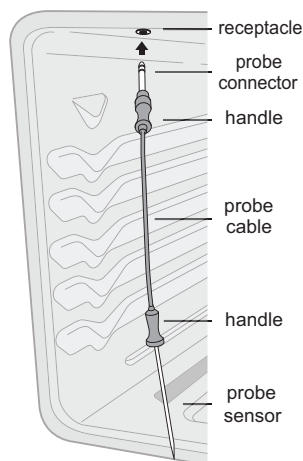

Figure 25: Probe receptacle insertion
The probe receptacle is located at the top of the oven cavity as shown in Figure 25.
Handle the meat probe carefully when inserting and removing from food or probe receptacle. Do not use kitchen utensils, such as tongs, to pull on meat probe cable when inserting or removing from food or receptacle. Use the provided handle, as shown in Figure 25. To avoid possibility of burns after cooking, carefully unplug meat probe using a pot holder to protect hands.
2. Plug the meat probe into the probe receptacle located on the top of the oven cavity. When the meat probe is correctly plugged into the receptacle, the probe icon will illuminate in the oven control display (Figure 25).